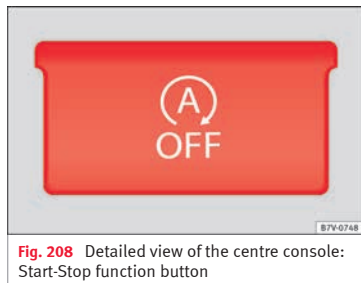

Fig. 208 Detailed view of the centre console: Start-Stop function button
- Press the  button on the centre console **»» Fig. 208**.